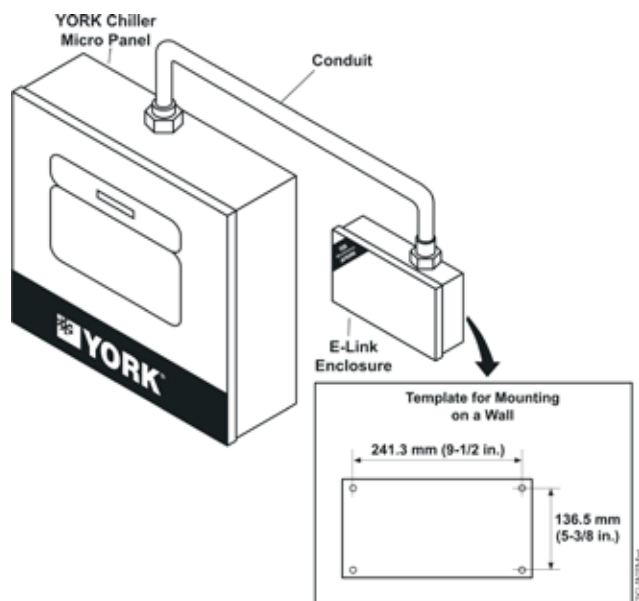

FIGURE 5 - WALL MOUNTING
3. Select a suitable location and mark the anchor points. Ensure that the enclosure is level. See Figure 5 for an example.